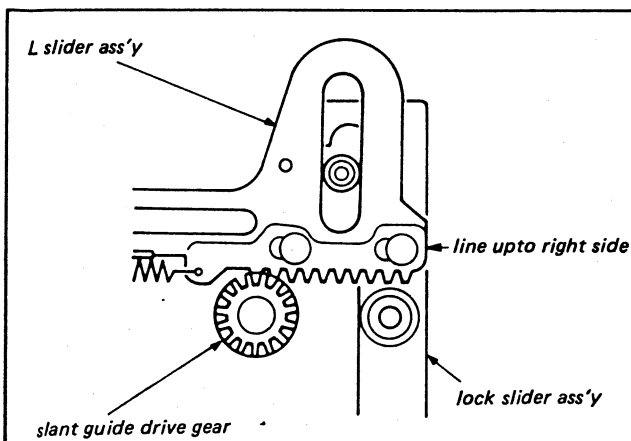

Fig. 3-23.
- 1) Operate the mode selector, and line up the right edge of the L slider assembly and the right edge of the lock slider assembly. (See Fig. 3-23)